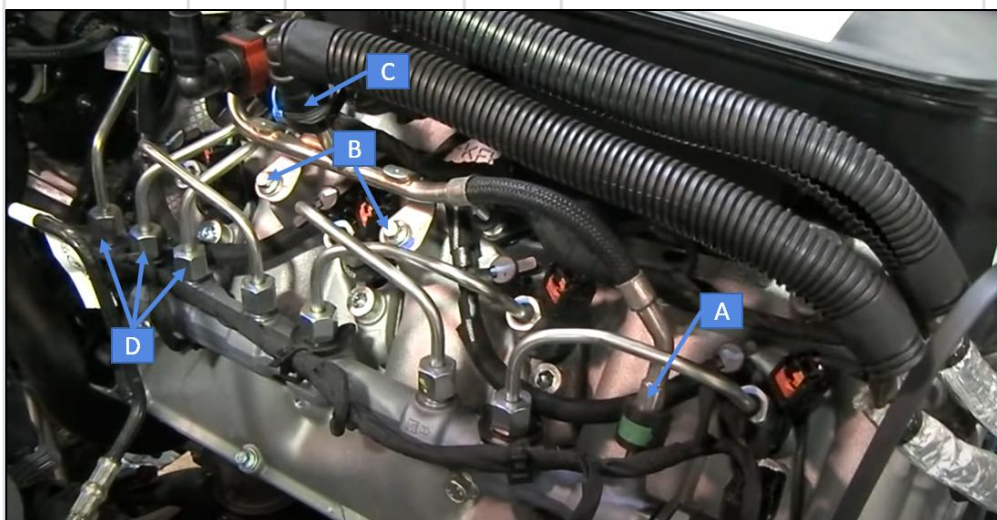
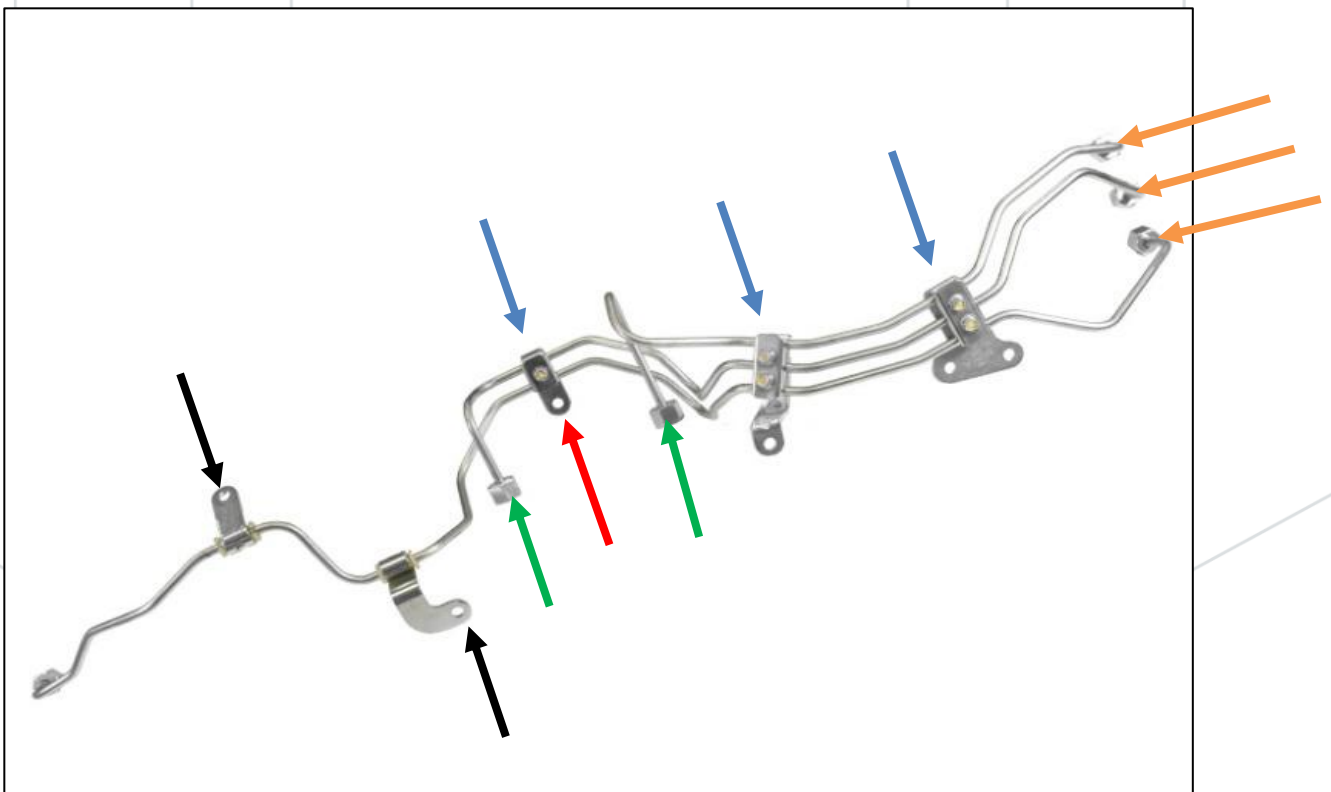

Figure 11: Fuel Line Connection Locations
Figure 19: High Pressure Line Assembly Nut and Bolt Locations
18. Referring to Figure 11 above, disconnect the low pressure return line from the fuel rail (Labeled as A).
19. Remove the one or two bolts that attach the fuel return line to the valve cover (Labeled as B in Figure 11).
- a. If a S&S DPK is installed, remove the return filter assembly & rotate the OEM quick-connect fitting (labeled as C in Figure 11) to the original OEM orientation, pointing downward. *(The S&S DPK return filter assembly can remain installed with the DCR pump).*
- The high-pressure line assembly to fuel rail connecting nuts are labeled as D in Figure 11 and colored in orange in Figure 19.
- The high-pressure line assembly to CP4 pump connecting nuts are labeled as C in Figure 11 and colored in green in Figure 19.
- Remove the five 8mm bolts holding the saddle brackets in place on the high-pressure line assembly colored in blue and the bolt for the rail-to-rail bracket colored in red in Figure 19.
- Remove the rail-to-rail crossover bolts below the EGR cooler colored in black in Figure 19 to allow the crossover line to be flexed towards the turbo compressor inlet.
11. Referring to Figures 19, 25, and 30 (labeled as D), install the new high-pressure lines included in the kit.